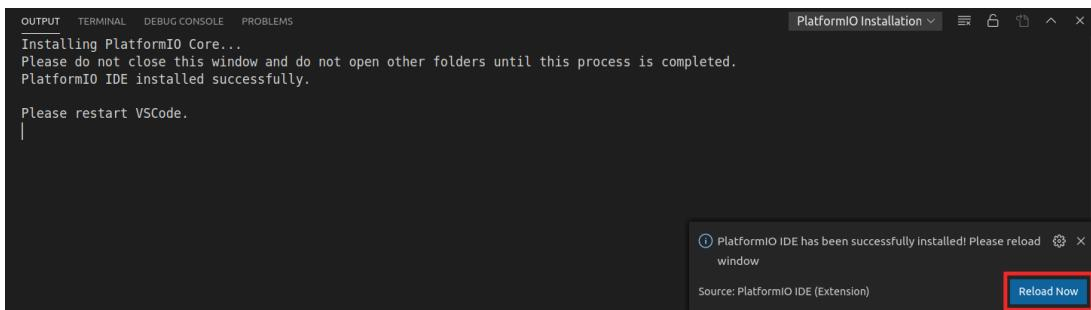

Figure 98. Reload Now after PlatformIO installs
5. The OUTPUT window on the bottom will inform you about the installation process. Once finished, click “Reload Now” on the bottom right side window, and PlatformIO will finish installing inside VSCode (see Figure 98).